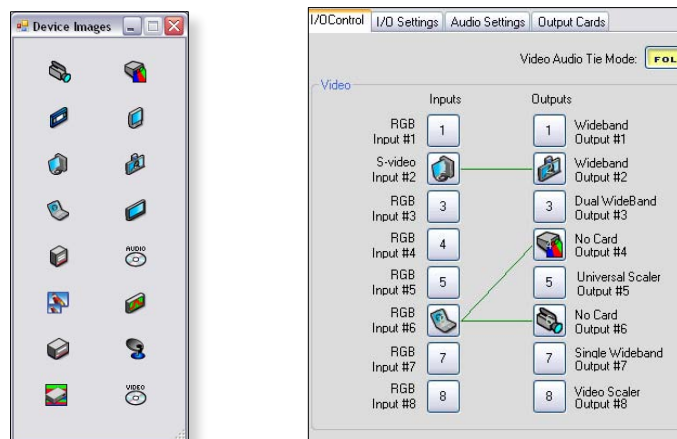

Figure 5-9 — Device image window and I/O buttons with icons in place
- **Device Images** — Selecting this opens a small window with device icons which are useful in identifying the input sources and output devices used. To use, drag suitable icons from the window and drop them onto the input or output buttons on the I/O Control page (see figure 5-9). To close the window click on the X in the window's top right corner.